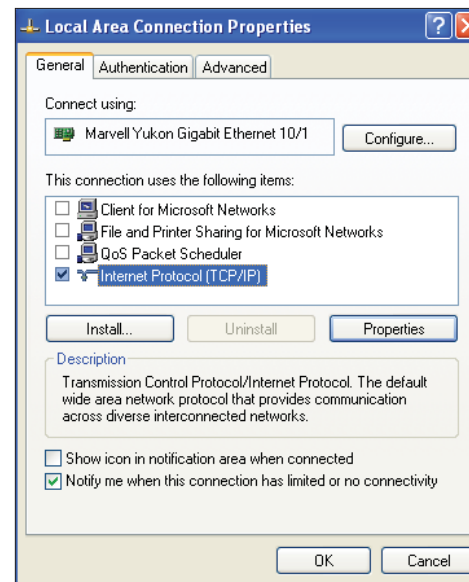

Figure 7: Local Area Connection Properties Window
- 5.) As shown in **Figure 7**, in the Connection Items list box, be sure the **Internet Protocol (TCP/IP)** is checked. *Select the Internet Protocol (TCP/IP) item to highlight it and then click* <Properties>. The *Internet Protocol Properties Window* will appear.